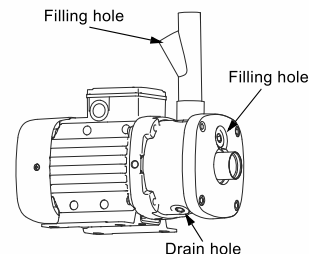

Fig. 12 Position of filling holes and drain hole
4. Remove the filling plug in the pump. See fig. 12.